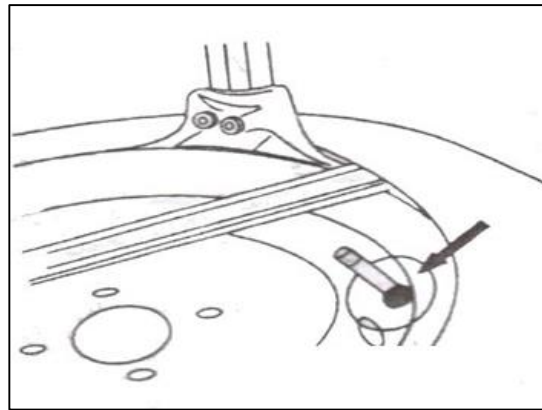

Fig. 20
4.1.4 Use the included Crowbar Tire Tool to detach tire from rim as shown in Fig 20, using the Hex Shaft as a pivot point. Once the Crowbar is positioned, then step on the Turntable Pedal (Fig. 2-8) to rotate the turntable clockwise until the entire tire lip is completely detached from rim.